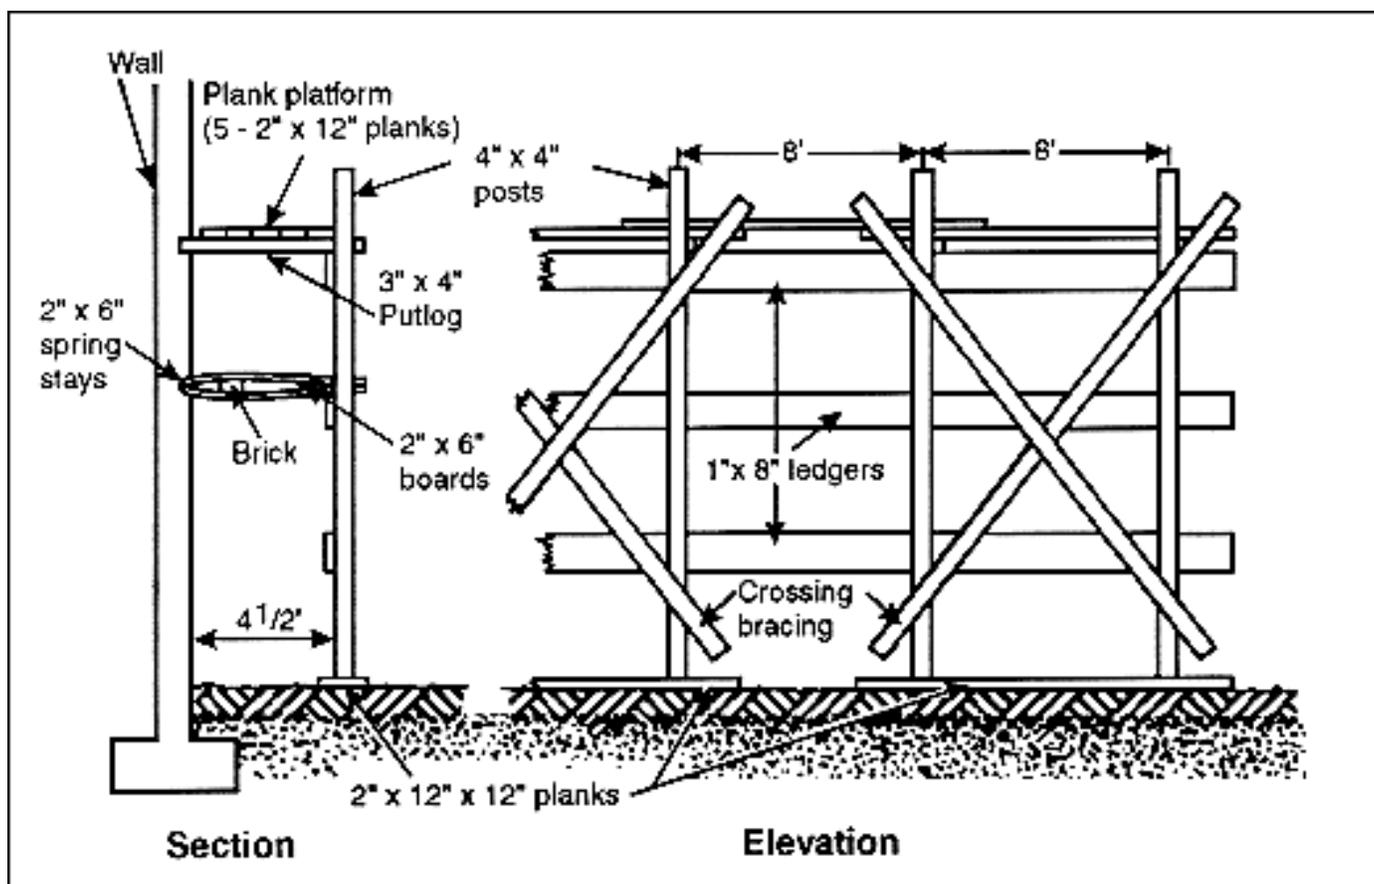

Figure 7-6. Putlog scaffold
7-26. A putlog scaffold (see Figure 7-6) reaches from the ground to the height required. Its uprights are 4 by 4s supported on a 2 by 12 by 12 plank for bearing on the soil. Space the
uprights on 8-foot centers and allow 4 1/2 feet of space between the wall and the uprights, as shown in Figure 7-6. The putlog is 3-by 4-inch lumber that spans the gap between the wall and the ledger. One end of the putlog rests on top of the ledger and against the 4 by 4 uprights, while the other end fits into the wall (one brick is omitted to make an opening for it). Do not fasten the putlog to the ledger. Place five 2 by 12 planks on top of the putlog to form the scaffold platform. Do not nail the planks to the putlog. Two ways to use stays are—
- Tie the uprights to the wall with stays. You can either pass the stays through a window opening and fasten them to the inside structure or use spring stays as shown in Figure 7-6. To make spring stays, omit one brick from the wall and insert the ends of two 2 by 6s in the opening. Then insert a brick between the 2 by 6s and force the brick toward the wall. Bring the other ends of the 2 by 6s together and nail them securely to the ledger.
- Use the putlog as a stay. You can also use the putlog as a stay by driving a wood wedge above the putlog into its hole in the wall. Then, nail the wedge to the putlog and nail the putlog to the ledger. Install longitudinal cross bracing as shown in Figure 7-6.